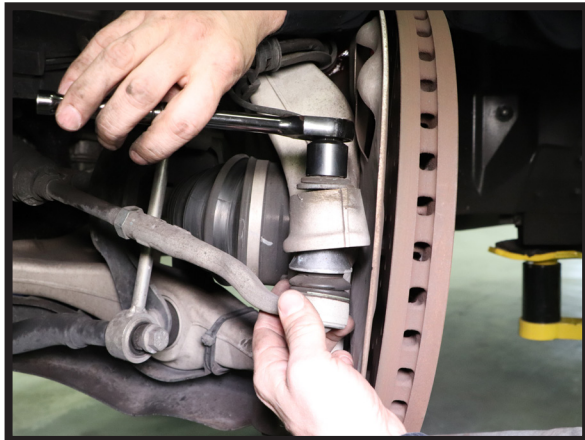

FIGURE 8
11. DISCONNECT THE STEERING LINK FROM THE WHEEL CARRIER MOUNT. (FIGURES 8, 9)